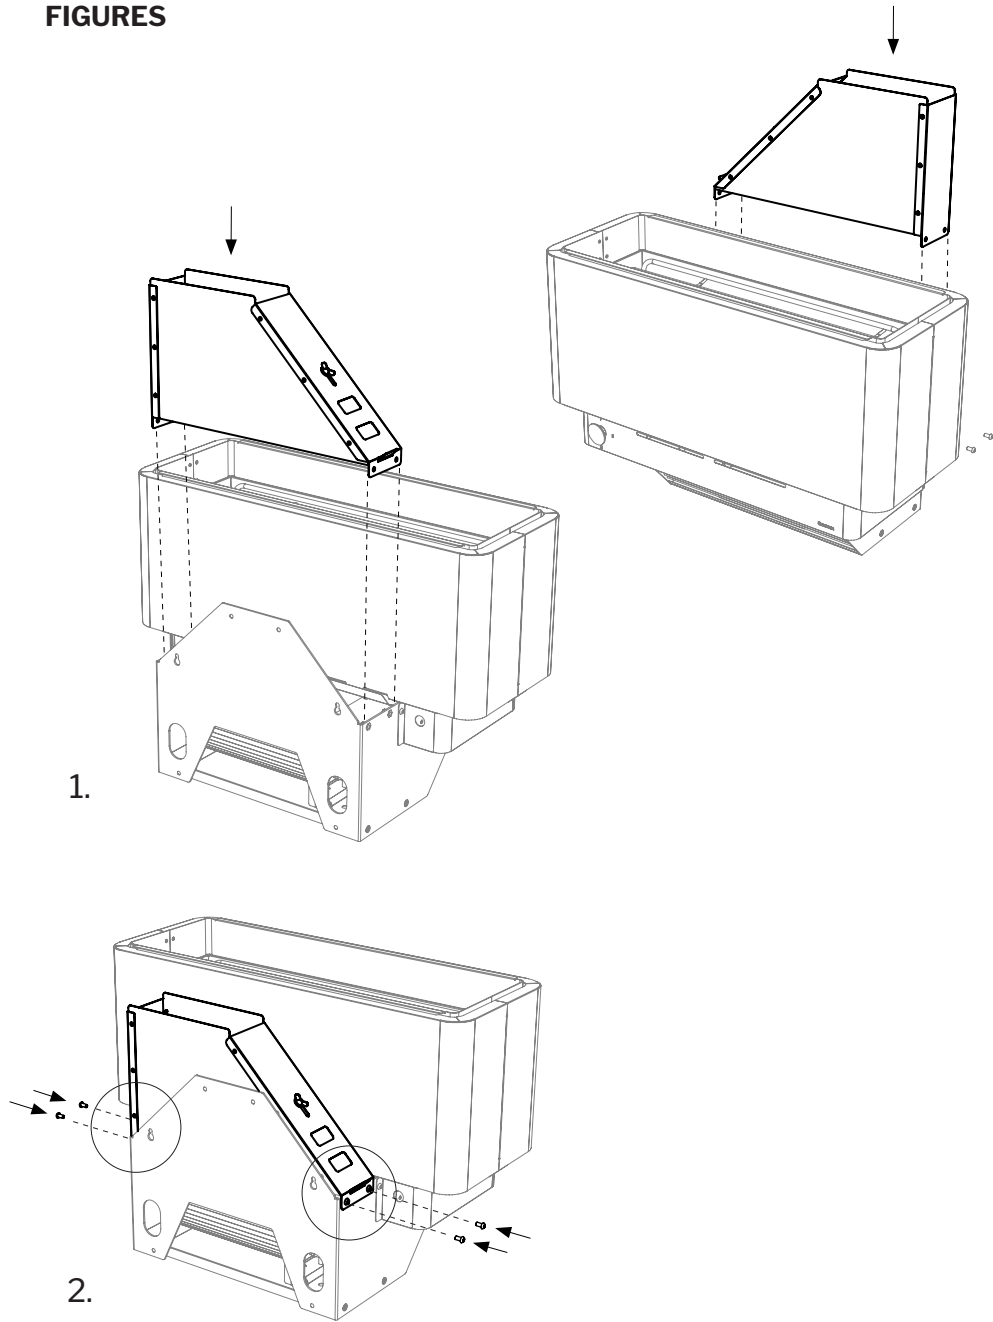

Figure 3.6: Installation of flue socket on the device and fastening with screws
- 3.2.5.** Put the flue socket back and secure with four screws (**Figure 3.6**).